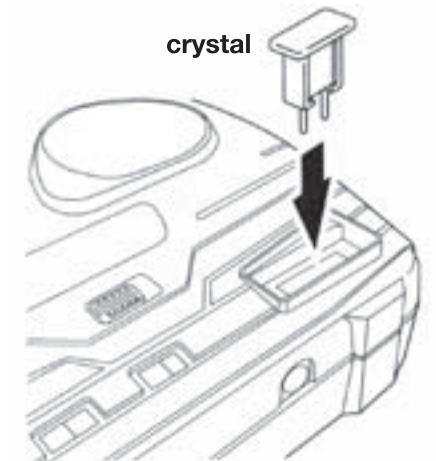

Figure 1
- \* 6 interchangeable 27MHz crystals are available to easily change the frequency (see figure 1 and 2).